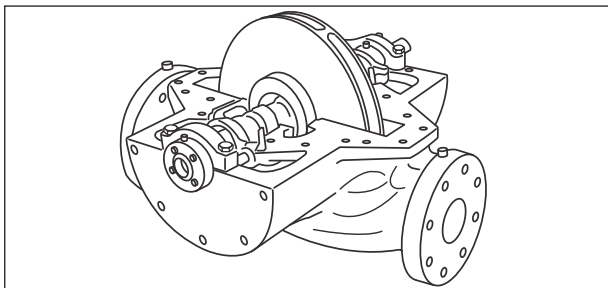

Figure 8. Casing half removed.
5. Make certain all securing capscrews are removed, then carefully remove casing half (8) using hoist or crane with a sling attached around cast hooks on the casing and under the casing. Refer to Fig. 8.